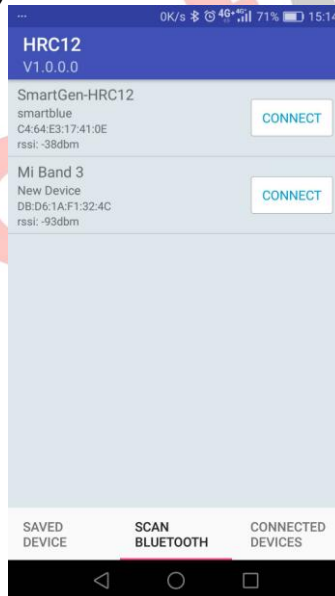

Fig. 6 Scan Bluetooth Interface
(2) Click Scan Bluetooth page, pull down and refresh, as Fig. 6 Scan Bluetooth Interface.